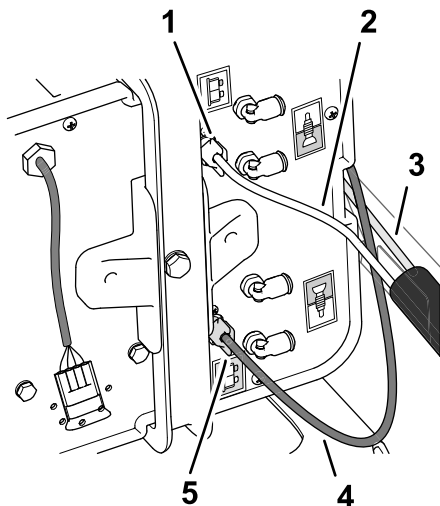

Figure 5
3. Route the free end of the clear tube 92 cm (3 ft) from the fitting of the cap to the fitting at the side of the compressor with the white compression nut (Figure 4 and Figure 5).